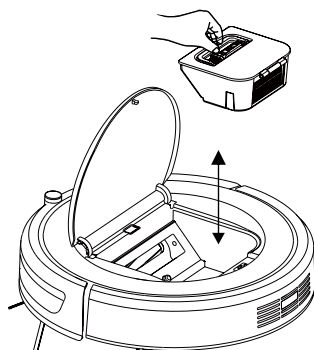

Fig.2
02. Take out the dust bin (Fig. 2).